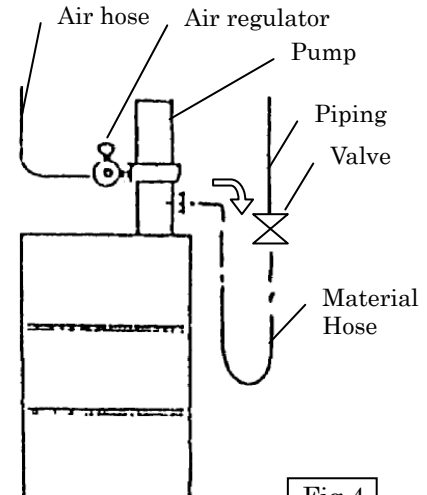

Fig.4
2) Install a valve between the end of the hose and the piping. (Fig. 4)